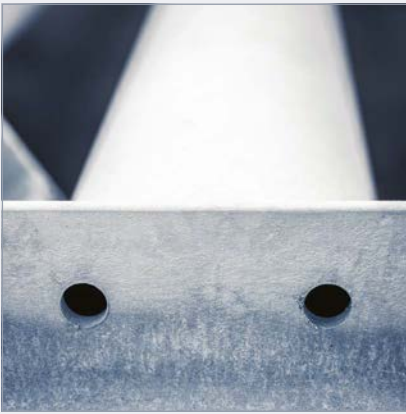
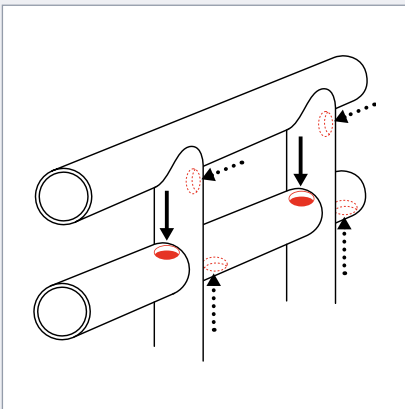
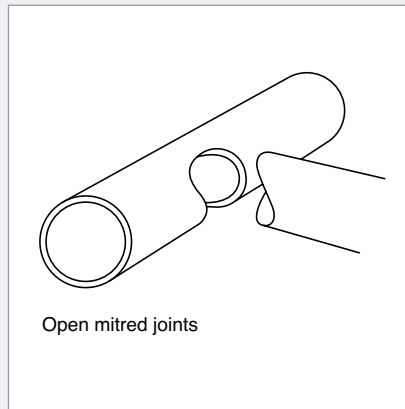
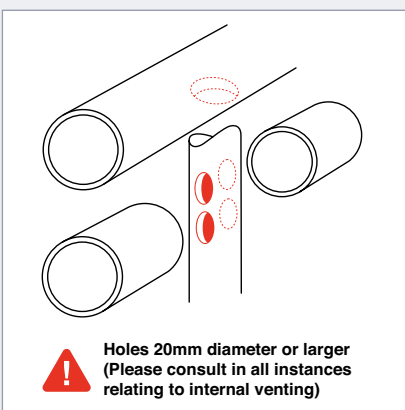

**Fig. 4**
Fig. 15
Fig. 16
Fig. 17
**Welded pipe sections.** Closed sections must never be incorporated. External holes may be positioned (as in fig. 15), enabling our galvanizing experts to make a quick visual inspection to ensure the work is safe to galvanize. Sections can be interconnected using open mitred joints (as in fig. 16), or interconnecting holes drilled before fabrication (as in fig. 17). Pipe ends can be left open or plugged after galvanizing (see unwanted vent holes below).
- With hollow sections sealed at the ends, holes should be provided, again diagonally opposite one another, as near as possible to the ends of the hollow member (fig. 15). In some cases it may be more economical to provide 'V' or 'U' shaped notches (fig. 4) in the ends of the tubes, or to grind the corners off rectangular hollow sections. These procedures will provide ideal means for venting and draining.